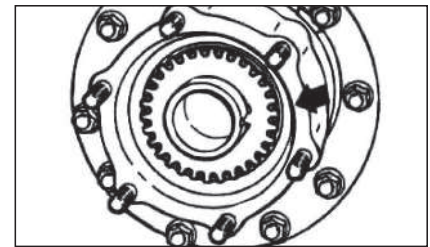

Figure 1
- 2 Install the wheel bearing lock washer as shown in Figure 1. Washer tab must be engaged in keyway and pushed deep on spindle until it contacts and moves the outboard bearing into its hub mounted race.